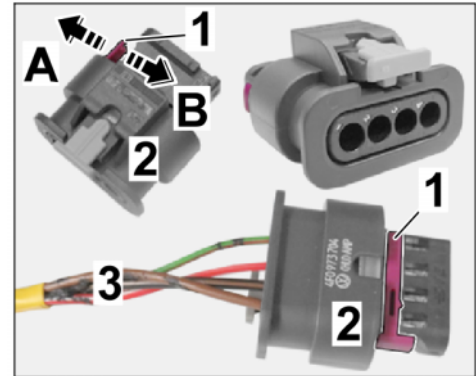

Figure 38
3.4.1 Release the socket housing (4-pin, see parts list) (\Rightarrow Figure 38).
3.4.3 Lock the socket housing (4-pin, see parts list) (\Rightarrow Figure 38).